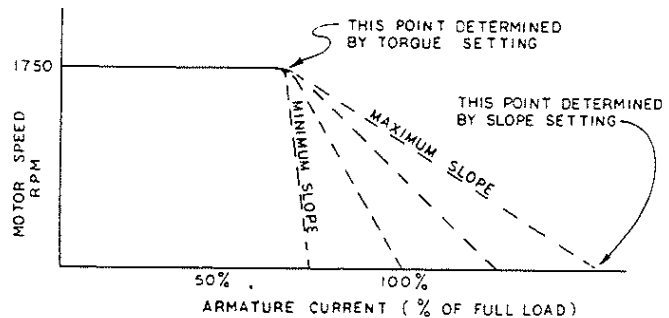

Figure 3.2
- E. **SLOPE:** Used in conjunction with Torque adjust to produce an increasing Torque-decreasing speed characteristic above a fixed Torque limit. See Figure 3.2. Increasing this control reduces the Slope. Normal setting is at "MIN"
The slope adjust potentiometer R12 raises the bias point to further increase the maximum torque at any set speed. See Figure 3.2 for the effect of slope on the torque-speed characteristic curve.